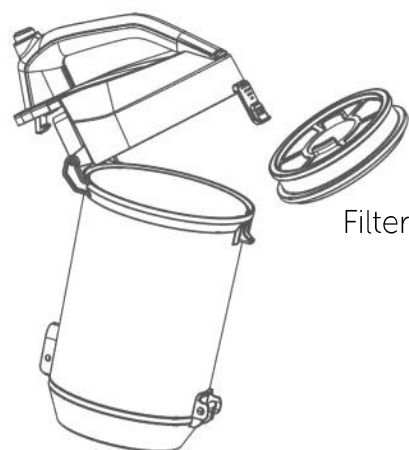

Fig. 7
3. To clean the dust container filter, flip open the lid of the dust container using the catch at the front of the dust container and lift out the filter (fig. 7).